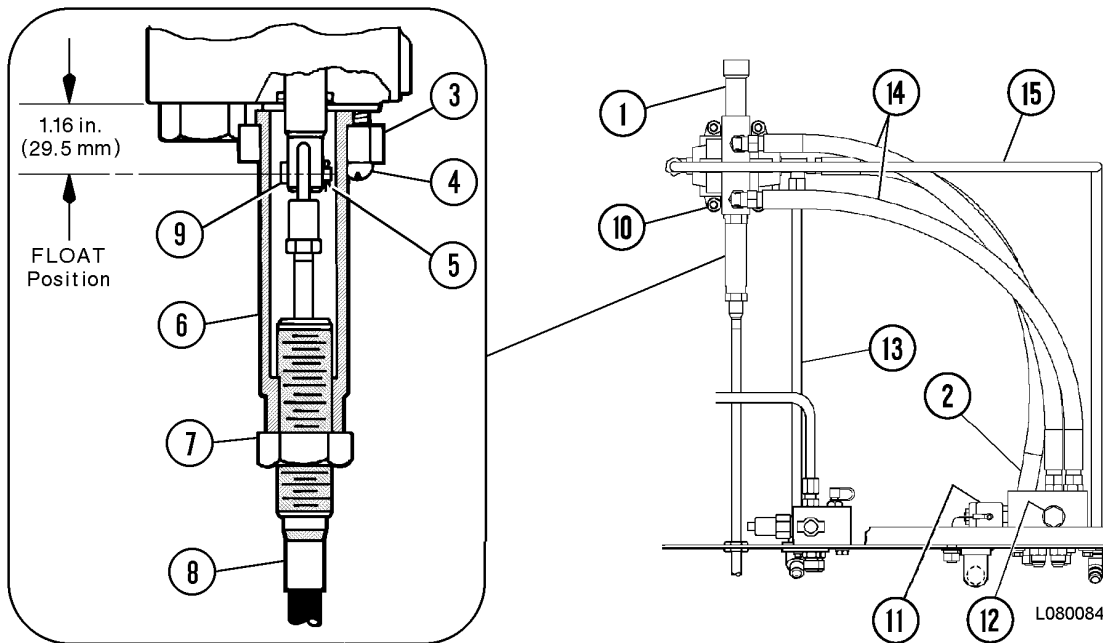

FIGURE 8-11. HOIST PILOT VALVE REMOVAL
2. Disconnect hydraulic lines at the hoist pilot valve (1, Figure 8-11). Remove capscrews (4).
3. Loosen and unthread jam nut (7). Unthread sleeve (6) until cotter pin (5) and pin (9) are exposed.
4. Remove cotter pin (5) and pin (9).
5. Remove the hoist pilot valve mounting hardware (10). Remove hoist pilot valve. Refer to hoist pilot valve disassembly for repair instructions.
1. Place the hoist pilot valve into position on the mounting bracket. Secure valve in place with capscrews (10, Figure 8-11).
4. Align control cable eye with pilot valve spool hole and insert pin (9). Secure pin in place with cotter key (5).
5. Thread sleeve (6) upward until contact is made with valve body. Move flange (3) into position and secure in place with capscrews (4).
6. Thread jam nut (7) against sleeve (6). Tighten jam nut securely.